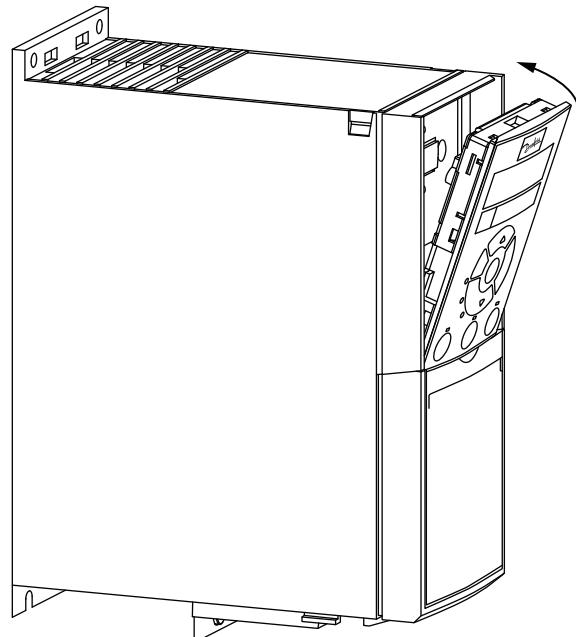

Fig. 59 — Secure Keypad in Place
2. Push the top of the VFD keypad into the variable frequency drive as shown in Fig. 59.